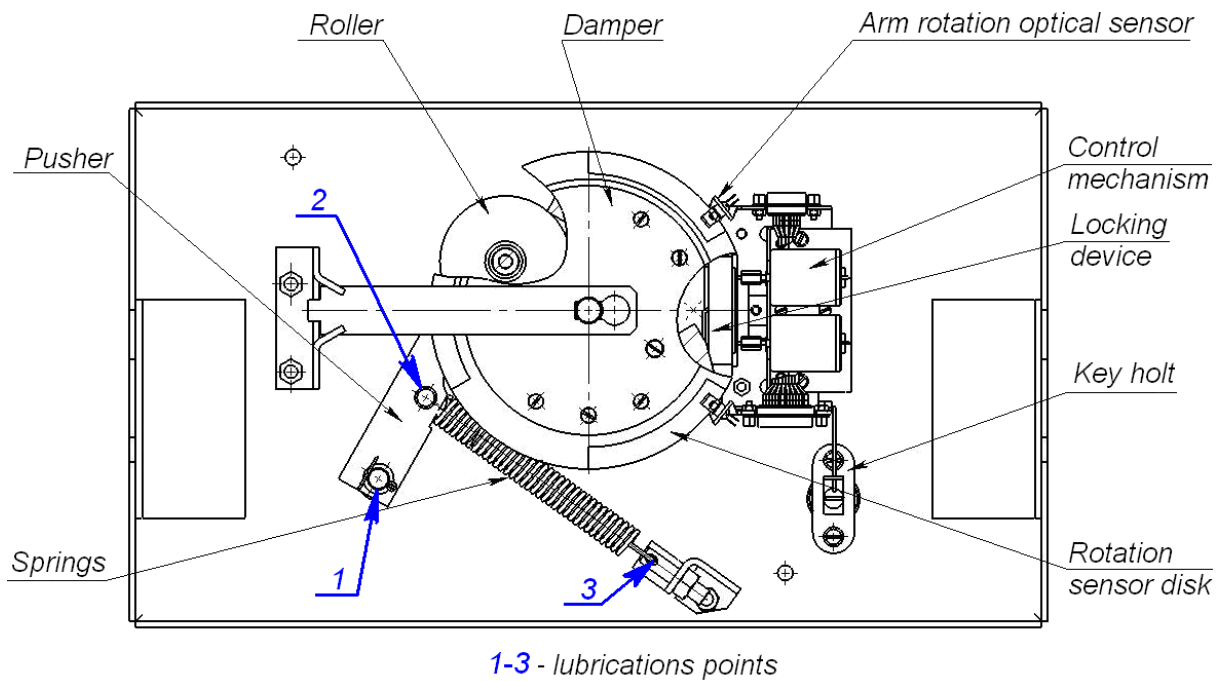

Figure 14. IP-Stile internal components
2. remove the cover (3) as described in section 5.4;
4. inspect the resetting device (the pusher, the springs and the roller), the optical rotation sensors for the barrier arms and the damper (ref. Figure 14);
- four bushes of the resetting device (two on the rotation axis of the pusher and two on the fastening axis of the spring), as well as the holes in the fastening parts of the springs: two-three oil drops into each lubrication point (the lubrication points are shown in Figure 14);